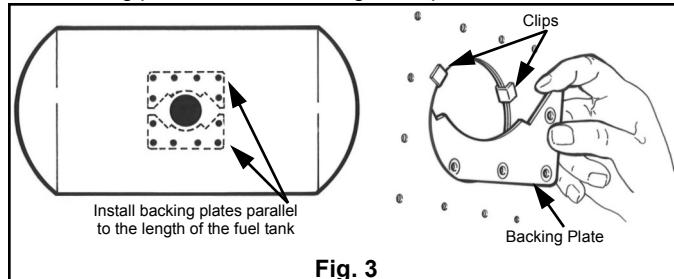

Fig. 3
- Insert the backing plates (as shown in Fig. 3) inside the fuel tank, so they are parallel with the length of the tank. You can hold the backing plates in place with a needle nose pliers or vise grip.